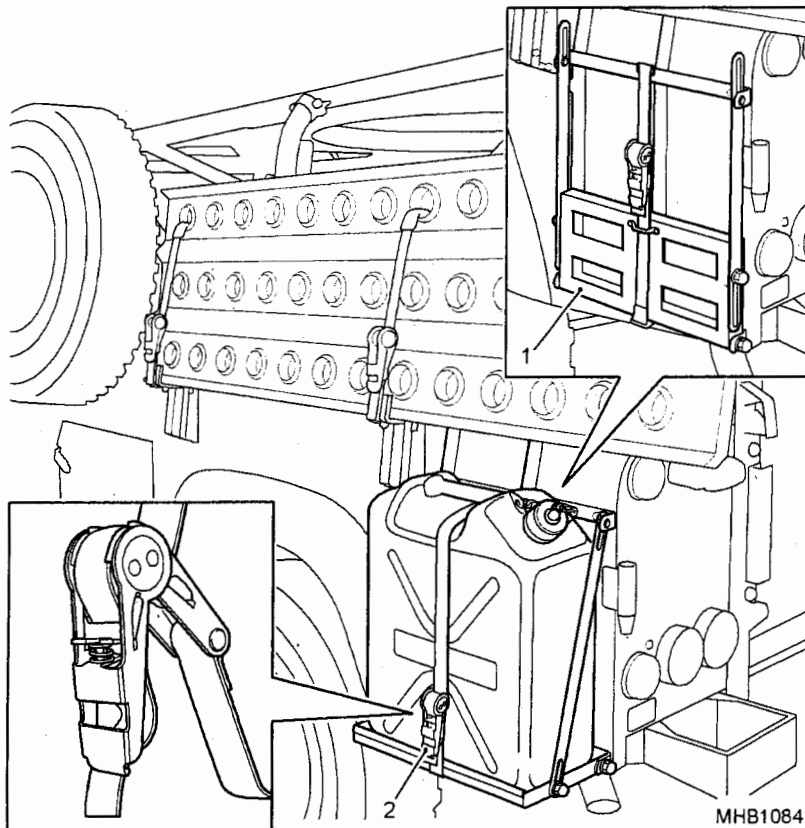

Fig 2 Jerry can stowage
6.1 To unfold the jerry can stowage frame. Lift the lever on the ratchet and pull the strap from the ratchet to release the platform, lower the platform (Fig 2 (1)).
6.3 To release the jerry can. Lift the lever on the ratchet (Fig 2 (2)) and pull the strap from the ratchet to release the jerry can.